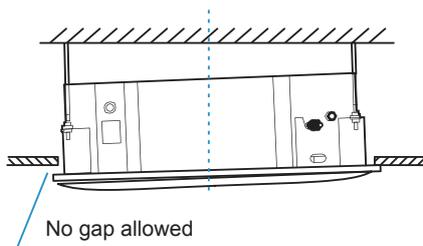

Figure 4.22
- No gap is allowed between the ceiling and the panel. See Figure 4.22.